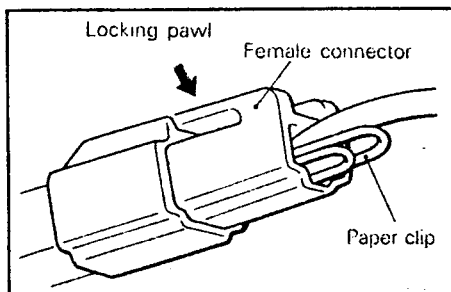
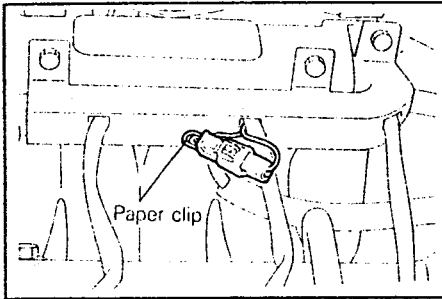

Fig. 5.4. — The paper clip must be inserted into the connector in the manner shown.
Fig. 5.5 — The connector plug with the inserted paper clip shown on the engine.
- Insert a paper clip from the harness side into the 1 pin connector as shown in Fig. 5.4. The connector should not be separated. The paper clip is inserted into the terminal from the opposite side of the locking pawl on the female connector. The paper clip is necessary to connect the revolution counter. The arrangement will then have the appearance shown in Fig. 5.5.